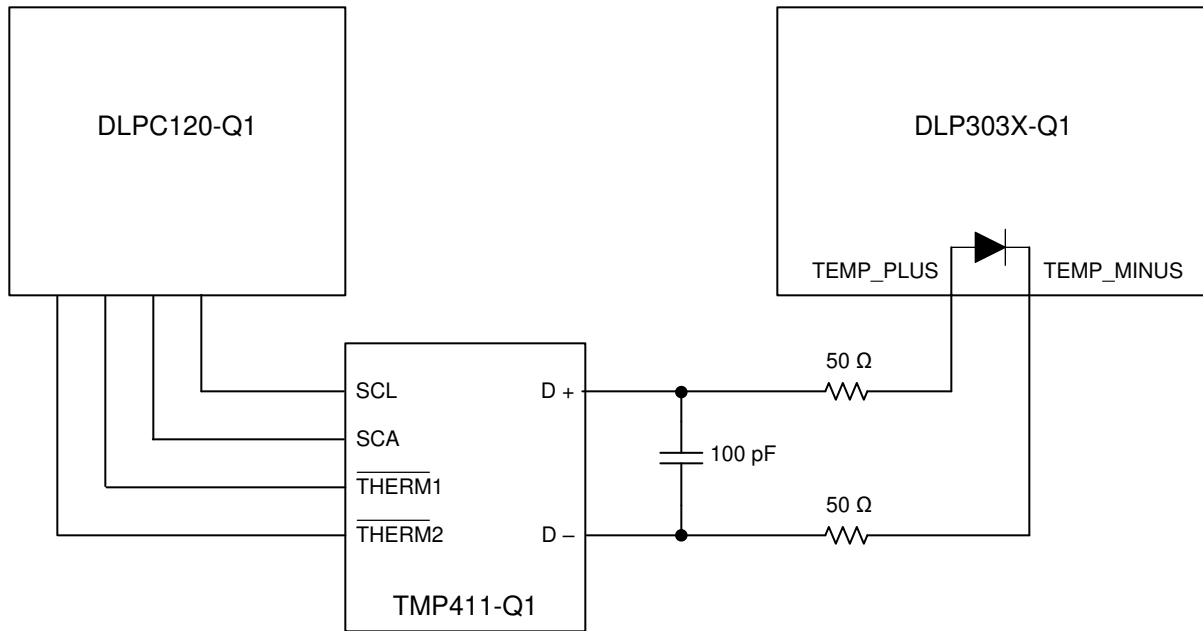

Figure 10. Temperature Sense Diode Typical Circuit Configuration
**Figure 10** shows the typical connection between the DLPC120-Q1, TMP411-Q1, and the DLP3034-Q1 DMD. The signals to the temperature sense diode are sensitive to system noise, therefore, care should be taken in the routing and implementation of this circuit. See the TMP411-Q1 Data Sheet for detailed PCB layout recommendations.